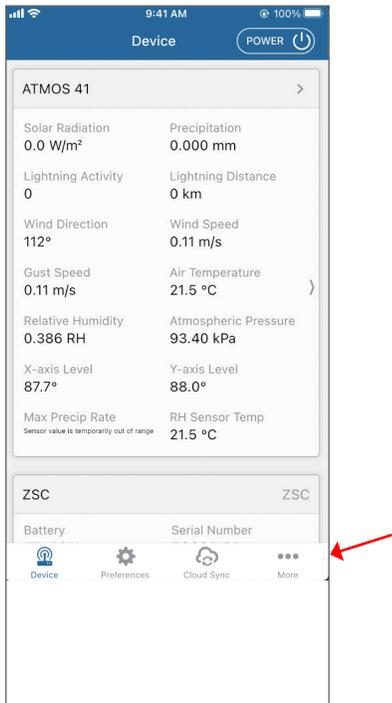

Figure 13 Open More screen
Once a connection is made, the ZSC Device screen will appear (Figure 13). The ZSC is now connected to the ATMOS 41 and ready to update the pyranometer CAL Factor.
7. Press the menu dots located in the lower right-hand corner of the Device screen (Figure 13) to open the More screen.